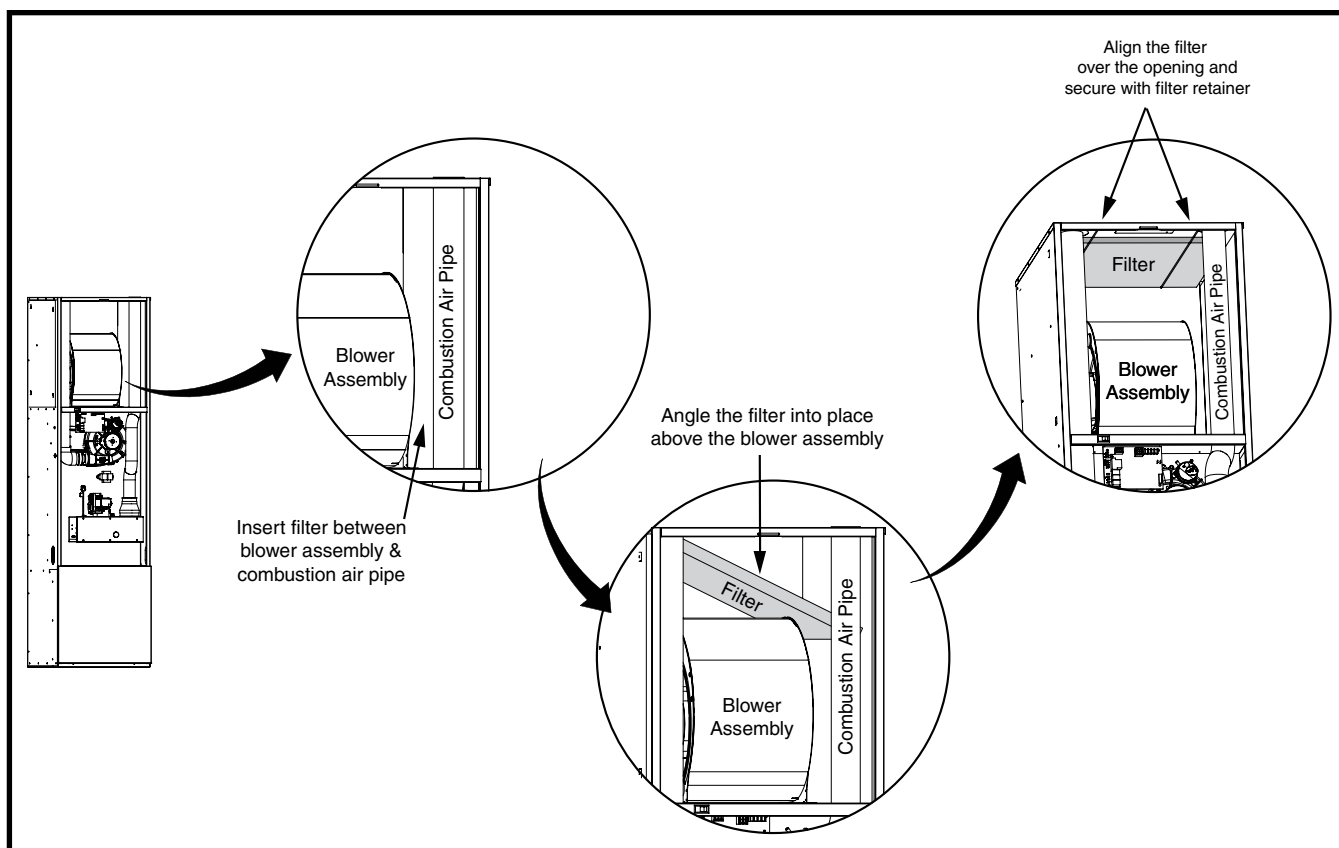

Figure 7. Filter Installation
1. Slide the standard 18"x18"x1" filter into the space between the combustion air pipe and the blower assembly. See Figure 7 \(page 13\). **NOTE:** Make sure the airflow arrows on the filter point towards the blower assembly.
4. Evenly align the filter over the opening in the top of the furnace cabinet and position the other end of filter retainer up over the flange in the furnace's top panel. **NOTE:** To properly secure the filter, make sure the filter retainer is properly positioned in the top panel of the furnace. There should be no visible air gaps. The retainer may slide left or right slightly, but must not have any movement between the front and rear. See Figure 7.